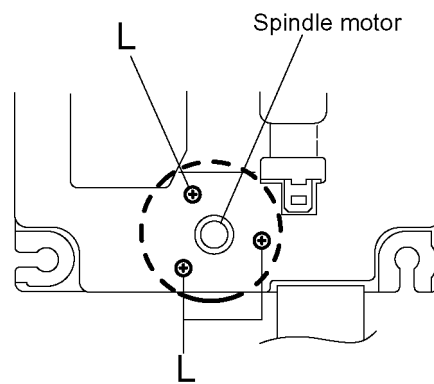

Fig.19
3.2.5 Removing the spindle motor assembly (See Fig.19 to 21)